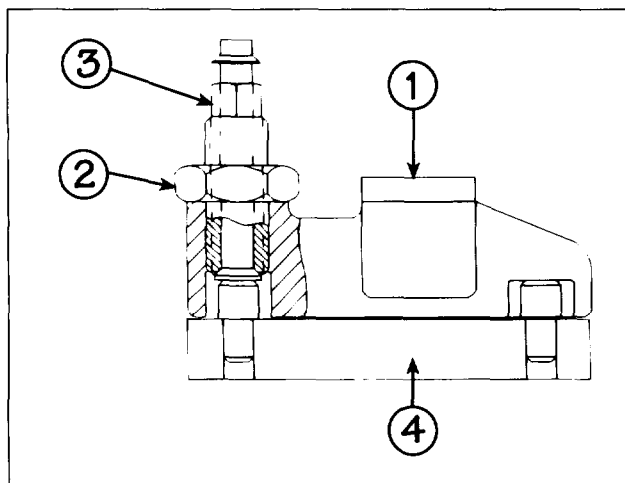

FIG. 31
1. Place the exhaust valve bridge (1, Fig. 31) in a soft jaw vice. Remove the lock nut (2) and the screw and pin assembly (3). Note that these parts are assembled using a thread retaining compound. Any parts damaged during disassembly must be replaced.